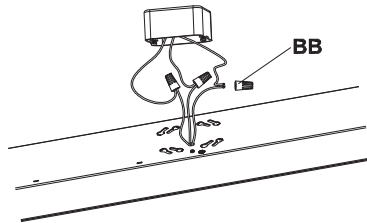

Figure 10
NOTE: - For proper connection, place the wire nuts (BB) over wires and twist clockwise until tight. (Figure 10)
3. Remove the heat shrink tubing wrap from the ends of the black, white, and green wires in order to expose the copper wires prior to connect the AC wires to the corresponding wires (BLACK to BLACK, WHITE to WHITE and GREEN to GREEN) in the junction box and secure using wire nuts (Part BB). (Figure 10)